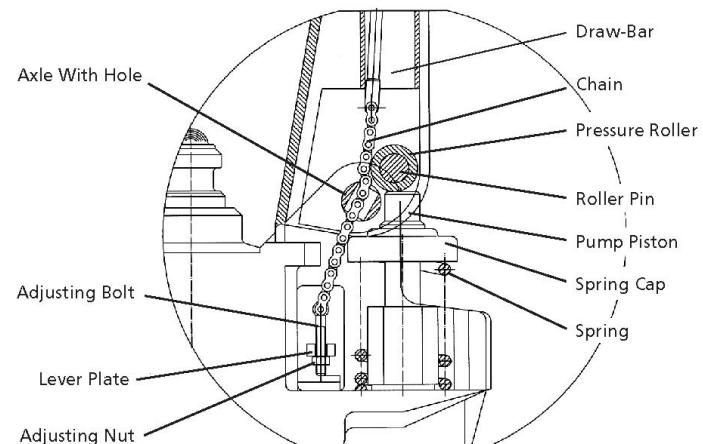

Fig. 7: Side view ER-A
c) Set the control lever of the handle to the 'LOWER' position, then pass the adjusting nut, adjusting bolt through the hole of the axle with your hand (Fig. 7).